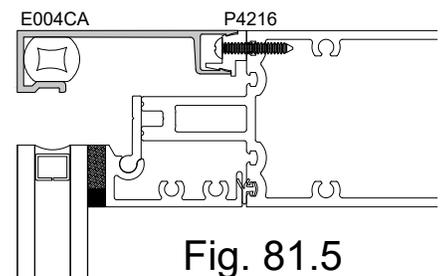

Fig. 81.5
- STEP 3: Using a rubber mallet and piece of wood blocking place E004CA trim over P4216 PVC separator and tap into place until trim snaps over P4216, Fig. 81.5.